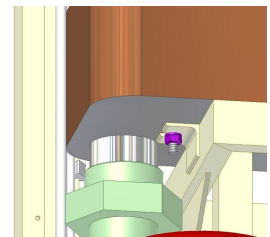

Figure 4.2-3
2. Remove the one M8 nut from underneath the heat exchanger (marked violet in Figure 4.2-3).